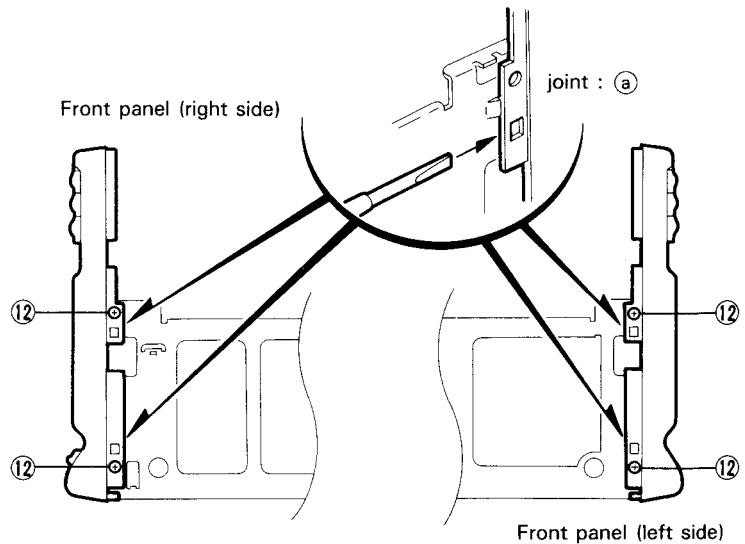
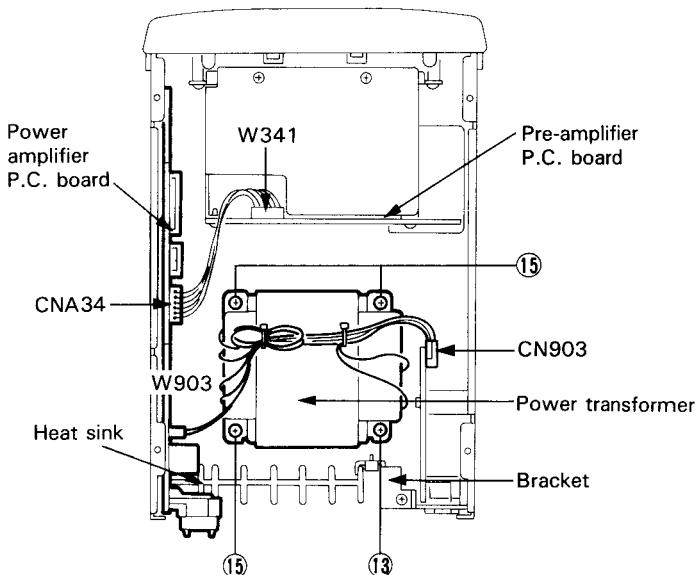

Fig. 7-13
Fig. 7-14
8. Remove the three screws ⑪ retaining the CD changer control P.C. board.
■ Method of removing the front panel assembly (Refer to Figs. 7-13 ~ 7-14)
6. Remove the four conical screws ⑫ retaining both sides of the front panel assembly (Refer to Fig. 7-13).
7. With a minus screws driver, remove the four engagements ⑬ retaining both sides of the front panel assembly.
■ Method of removing the power amplifier P.C. board (Refer to Fig. 7-14)
7. Remove the one screw ⑯ retaining the heat sink bracket on the power amplifier P.C. board (Refer to Fig. 7-14).
8. Remove the two wire treating clamps outgoing from W903 on the power transformer and power amplifier P.C. board (Refer to Fig. 7-14).
9. From the connector CN903 on the power supply P.C. board, remove the #4 PIN connector outgoing from W903 on the power amplifier P.C. board (Refer to Fig. 7-14).
(Refer to Figs. 7-14 and 7-15)
2. Remove the four screws ⑯ retaining the power transformer (Refer to Fig. 7-14).